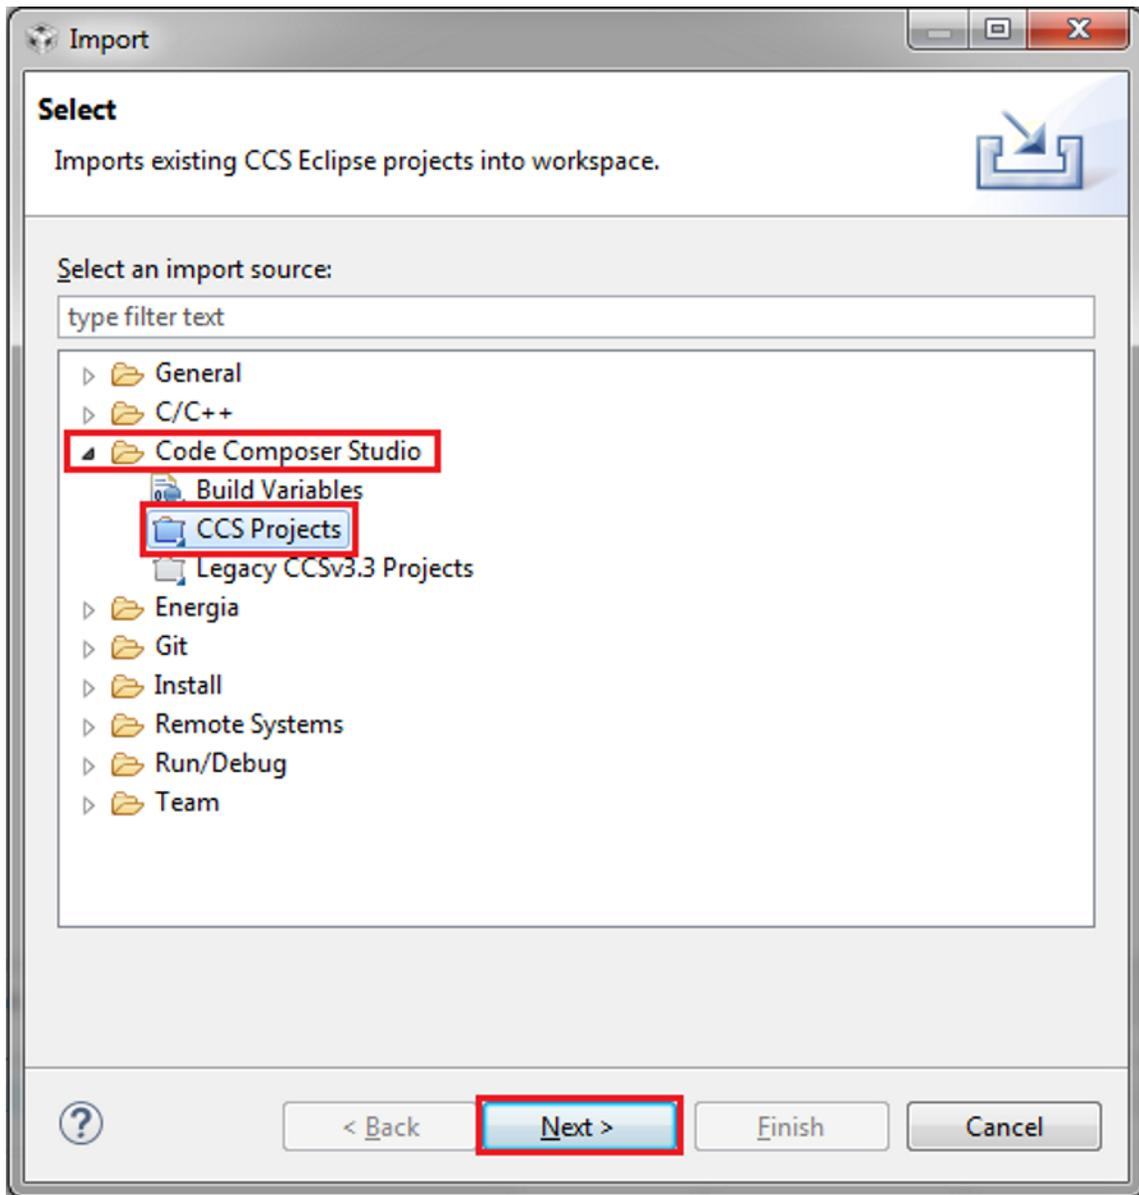

Figure 11. Import Selection View
- Expand CCS for more options then click CCS Projects. Click on *Next* (see Figure 11).